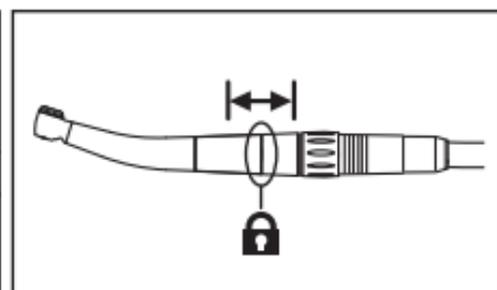

Fig. 3
- ② Make sure the handpiece is fully seated in the coupling (Fig. 3).